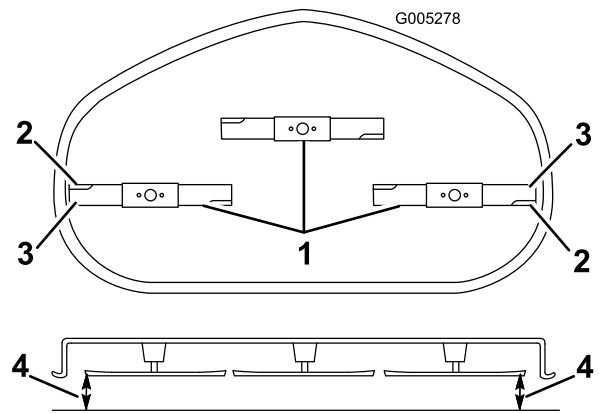

Figure 60
4. Measure between the outside cutting edges and the flat surface (Figure 60). If both measurements